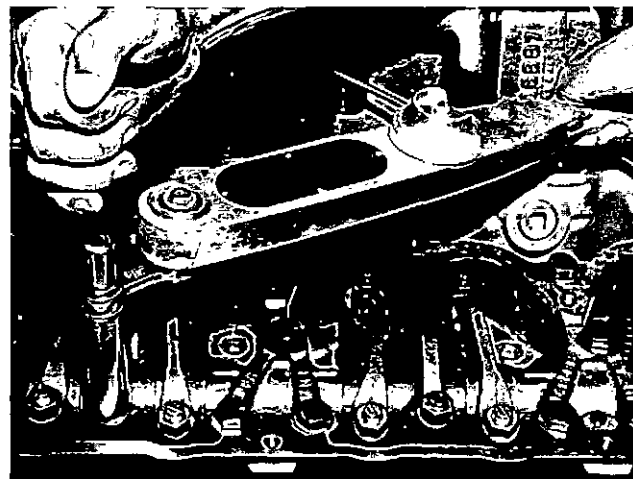

Fig. 5-37. Tightening injector adjusting screw locknut
- Hold injector adjusting screw and tighten injector locknuts to values indicated in Table 5-6. Where ST-669 is used nut torque is reduced to compensate for additional torque arm length. Fig. 5-37.